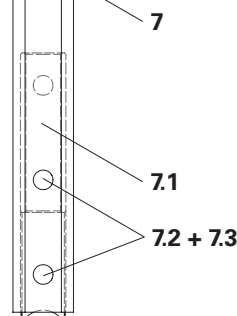

Fig. D4.04
2. Push the pressure block (**7.1**) into the square tube profile. (Fig. D4.04)
6. Insert both filler pins $\varnothing 26 \times 120$ (**7.3**) and secure with cotter pins 4/1 (**7.2**). (Fig. D4.04 – D4.06)